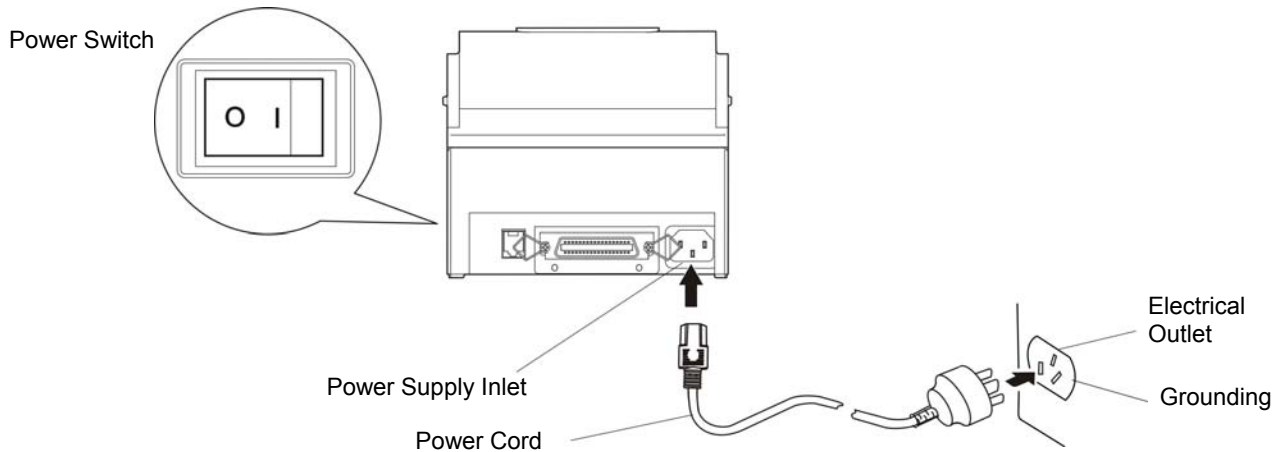

Figure 2-7 Connecting the power cord
1. Make sure the printer is turned off. (The pressed down side on the power switch with "O" mark denotes the printer is off). (As shown in Figure 2-7)